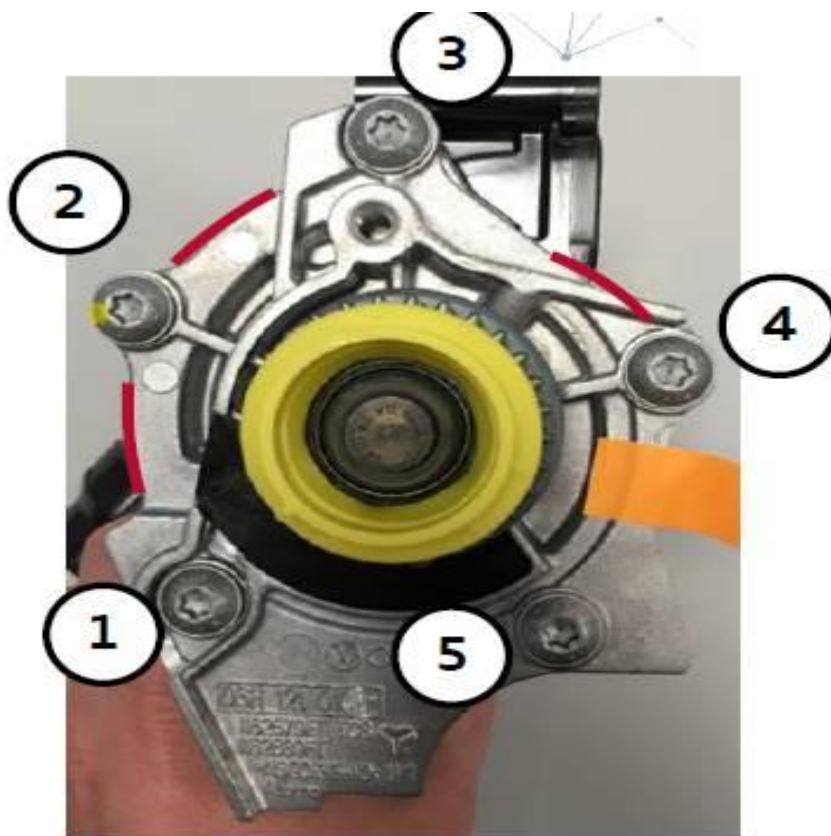

Figure 2. Securing bolts of the coolant pump (1 to 5).
- Align the two components against one another in such a way that both components are flush to one another in the areas marked in red (Figure 2). The thermostat housing must not be higher/lower than the coolant pump (run your finger over the three areas to check).
- Remove the cooling module from the engine again, loosen the coolant pump bolts (Figure 2) and make adjustments as outlined below.